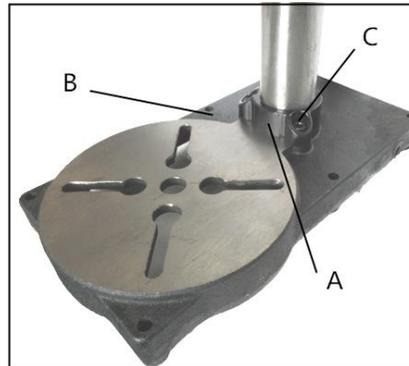

Fig 1
Install the column (A, Fig 1) to the base (B) then tighten the three Hex Socket Cap Screws (C) to secure.